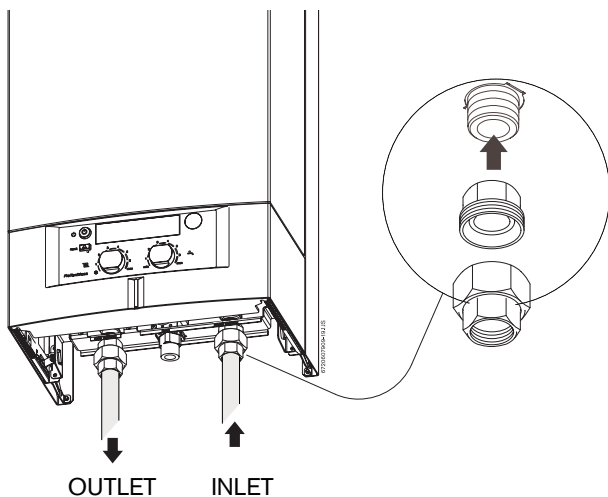

Fig. 29
- ▶ When facing the heater, the 3/4" NPT inlet is on the bottom right and the 3/4" NPT outlet is on the bottom left (Fig. 29). Install the heater centrally in the building if possible and make piping runs as short as possible.